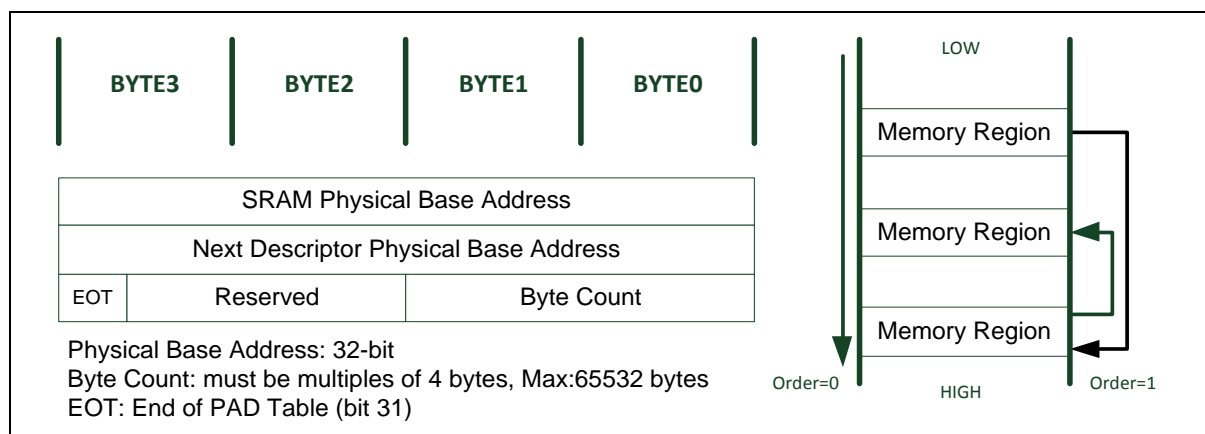

Figure 6.17-3 Format of PAD Table
3. When SDH_DMASA[0] is 1, the PAD will fetch in out of order; otherwise, it's fetched in order from PAD. The first time of writing bit-0 with 1 or 0 is not available for this function. The bits will be available in PAD table (Figure 6.17-3 Format of PAD TableFigure 6.17-3).